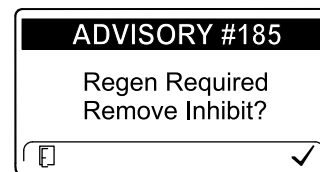

Figure 48
**Note:** If you set the InfoCenter to inhibit regeneration, the InfoCenter displays ADVISORY #185 (Figure 48) every 15 minutes while the engine requests a reset regeneration.